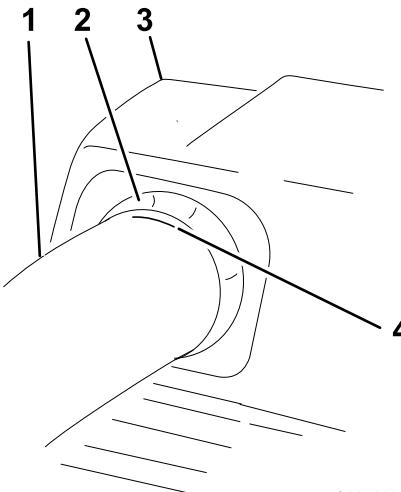

Figure 40
- 6. Once the 19 mm (3/4 inch) measurement has been achieved, mark the upper tube on the outside where the rubber seal protrudes out (Figure 40).
Make sure that the mark from Figure 40 is still in place.